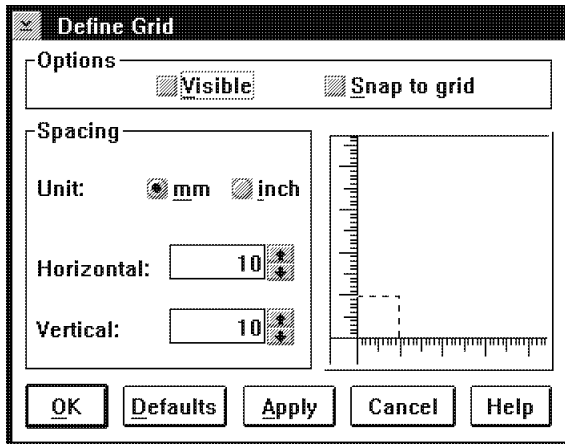

Figure 50. Define Grid Window
1. Select **Grid** from the **Settings** pull-down. You see the Define Grid window shown in Figure 50.